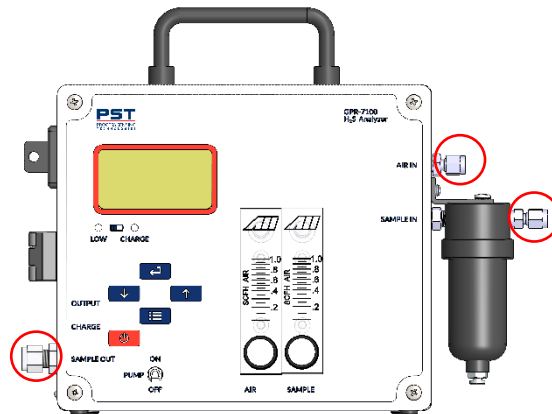

Figure 3. Gas ports
Your analyzer is equipped with three gas ports as highlighted in Figure 3. On the GPR-7100 model, the **Sample In** and **Sample Out** ports are labeled.
1. See Figure 3 on page 9 for port designation.